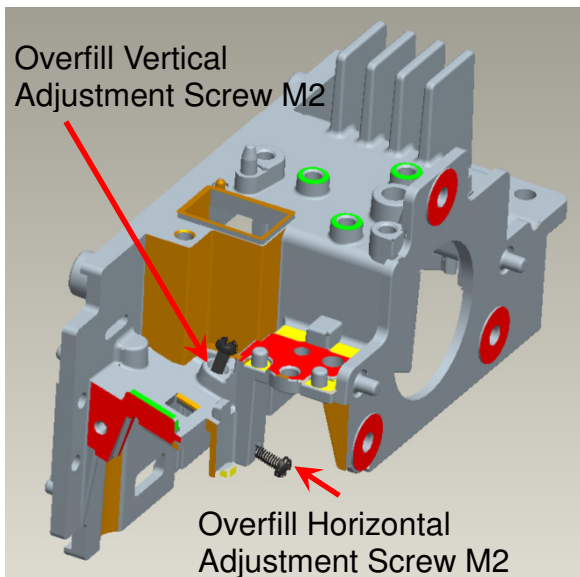
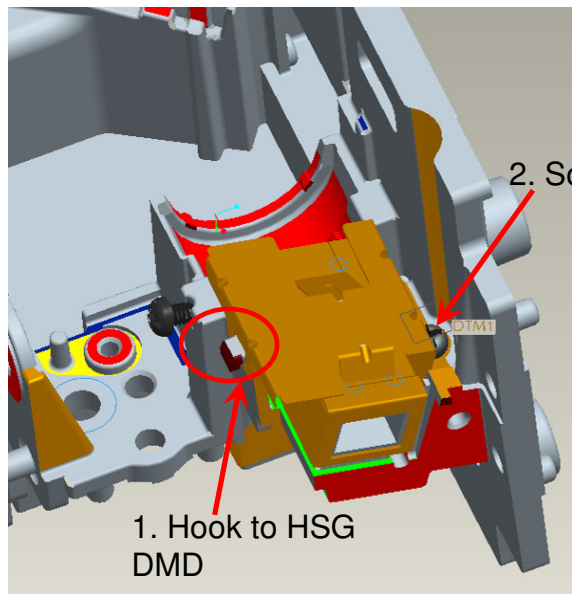

Fig. 1-16
Fig. 1-19
- (1) Assembly two Overfill adjustment screws (M2) to HSG DMD (Fig. 1-16).
- (3) Hook Clip LP to HSG DMD, and lock with screw well. (Fig. 1-19).
- (1) Pre-assembly 2 adjusting screws. Criteria shown as Fig.1-16
- (2) Alignment Sequence:
- b. Refer to Fig. 1-16
- (3) For Overfill Re-adjustment:
- a. Those 2 Adjustment Screws must be released closely to the “Pre-assembly” positions first (Fig. 1-19).
- b. Follow adjustment steps shown in Item 1.6 (2).